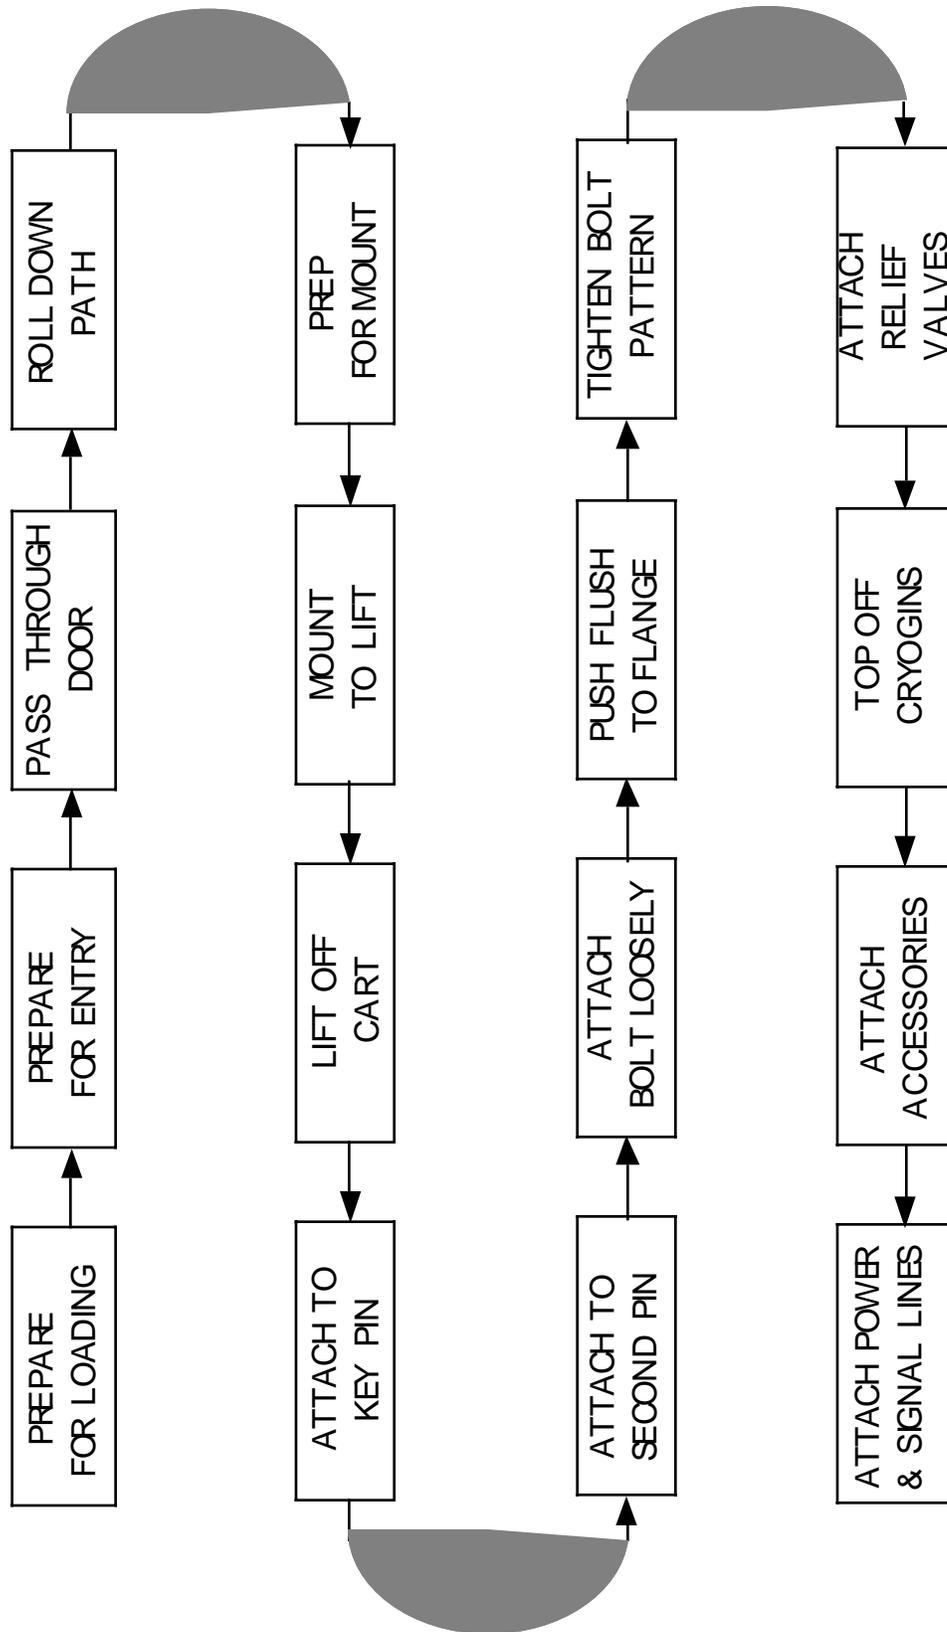

FIGURE 301 - FLOW CHART PROCESS
A. Flow chart the basic process. Figure 301.
- (1) Put every process step into the diagram. It is easier to remove a step than than to insert it later.
- (2) Assume that the person accomplishing the step is unfamiliar with the process and the systems.
- (3) Assume minimal skill level.
- (4) Assume no specialized parts or tools.